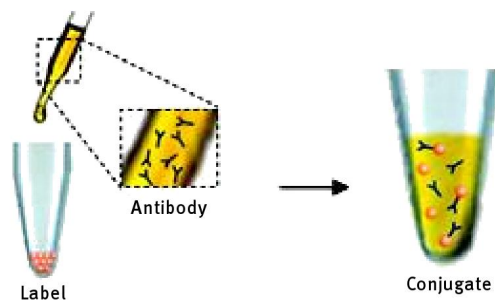

Figure 1
**Background:** Link-A-Light is a one step antibody labeling kit, requiring just 30 seconds hands-on time. The antibody is covalently bonded to the label in a directional and controlled process at near-neutral pH. The Link-A-Light conjugation kit allows Rhodamine conjugations to set up in seconds, simply by adding a solution of the antibody to be labeled to a proprietary lyophilised mixture containing Rhodamine (Figure 1). By circumventing the desalting or dialysis steps that commonly interrupt traditional protein conjugation procedures, Link-A-Light technology can be used to label small quantities of protein (see Principle). Unlike standard Rhodamine labeling procedures, where a large molar excess of rhodamine is employed, the Link-A-Light Rhodamine kit combines a low molar ratio of Rhodamine:Antibody and high labeling efficiency to eliminate the need for purification steps.